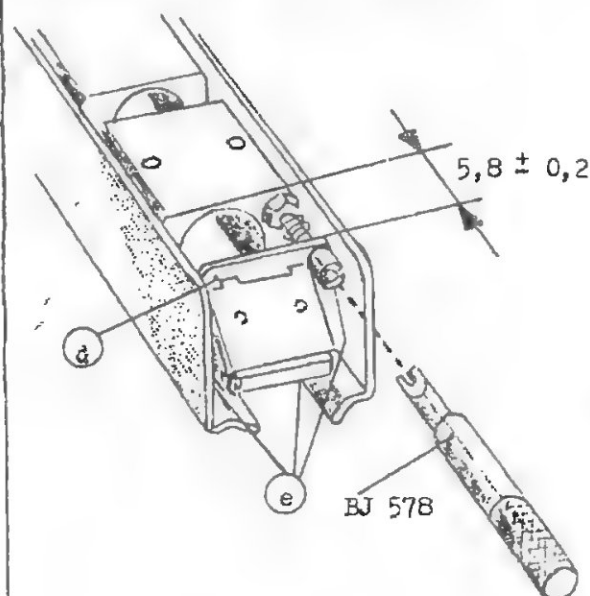

Fig. 2
1.1 While adjusting the reflex viewfinder on to the camera housing, pin (b) must engage in the slot (a) of the eyepiece. Center the mask inside eyepiece (a). Align front prism (d) (Fig. 2) by acting on the 3 screws (c) until the image reflected by the prism coincides with the mask of the eyepiece, whereby a distance of 5.8 mm must be maintained.